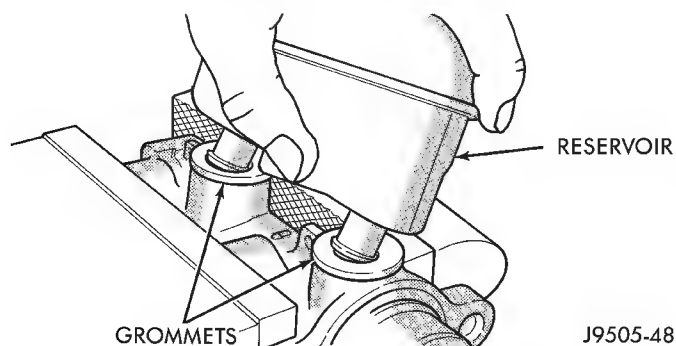

Fig. 19 Reservoir Removal
(5) Remove reservoir by rocking it to one side and pulling free of grommets (Fig. 19).